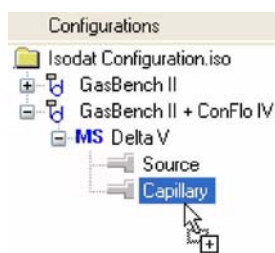

Figure 5-42. Drag and drop of set to capillary symbol
7. Drag and drop the **ConFlo IV + GasBench** set to the Capillary symbol in the left pane. See Figure 5-42.